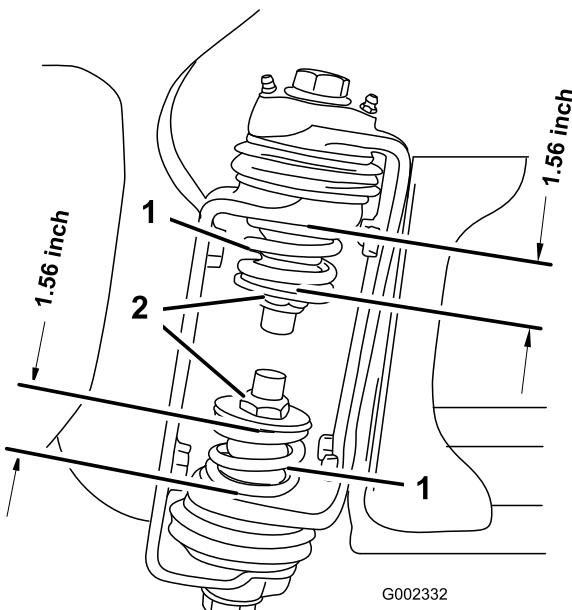

Figure 39
3. At the boom hinge, measure the compression of the upper and lower springs while the booms are in their extended position (Figure 39).